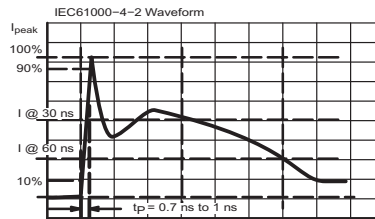

Figure 3. IEC61000-4-2 Spec
4. For test procedure see figures 3 and 4 and application note AND8307/D.